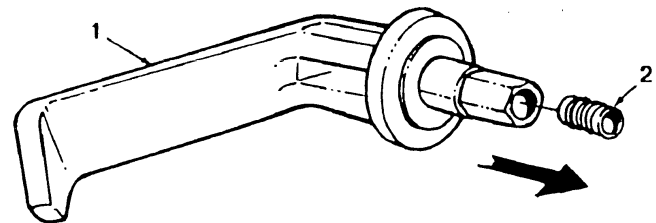

FIGURE 3-7
2. Check outer door handle (1) for insert (2), and remove insert (2), if present. (see figure 3-7)